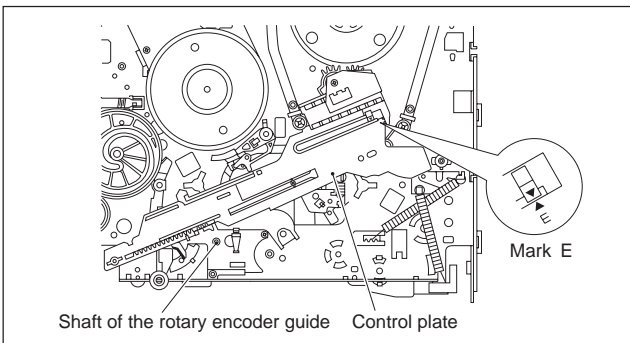

Fig.3-2-13b
- (1) Slide the control plate so that its mark E is aligned with the mark ▼ on the loading arm gear shaft. (See Fig.3-2-13b.)